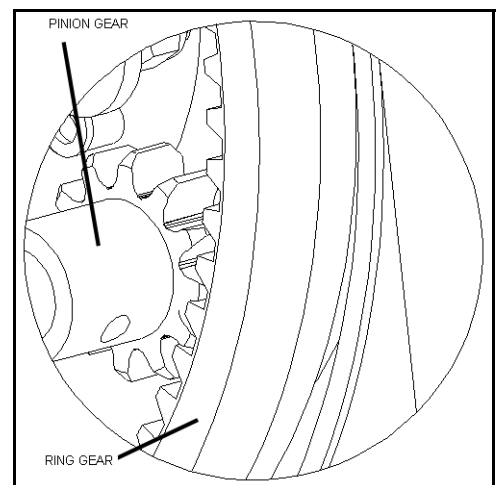

Figure 3.34
2. With the pinion gear flush with the ring gear, as shown in Figure 3.34, weld the axle cap to the axle tube.